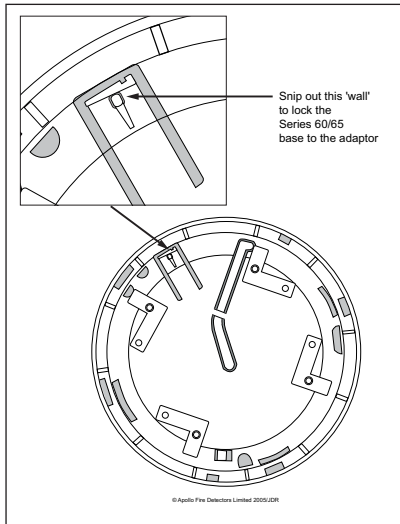

Fig 1 Location of locking wall
When an Orbis detector head is fitted into the adaptor, it forms a detector/adaptor assembly. To lock this assembly to the existing base, the tab shown in **Fig 1** should be removed.
4. The assembly can be locked to the existing base by means of the removable tab on the underside of the assembly as shown in Fig 1.